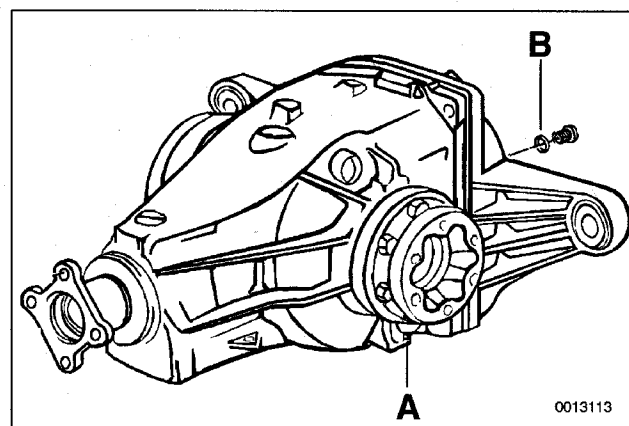

Fig. 1. Final drive drain plug (A) and fill plug (B).
3. Place a drain pail below final drive and remove drain and fill plug from final drive. See Fig. 1.